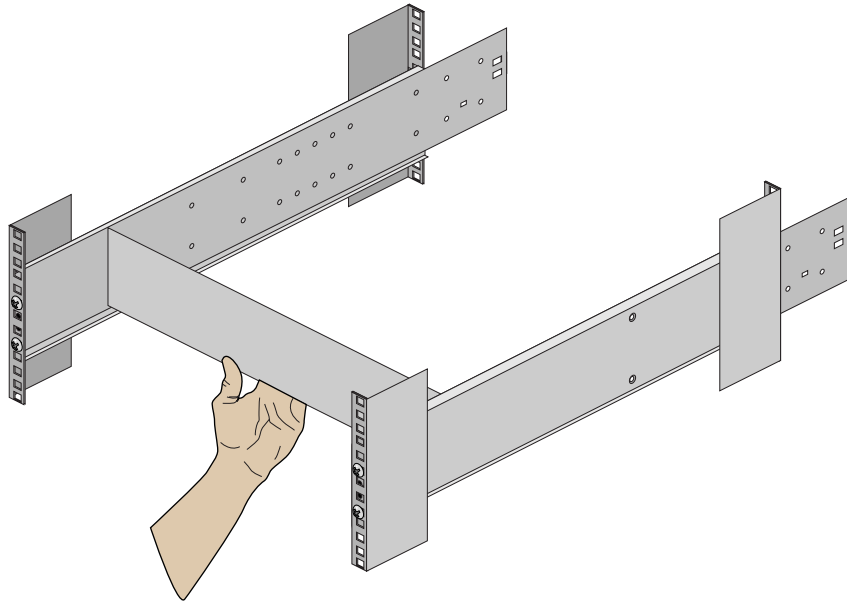

Figure 7-5 Slide the Alignment Tool from Front to Back
5. Double-check the alignment by moving the alignment tool through the rack. There should be no play between the alignment tool and the rails, see Figure 7-5 on page 84 for an example.